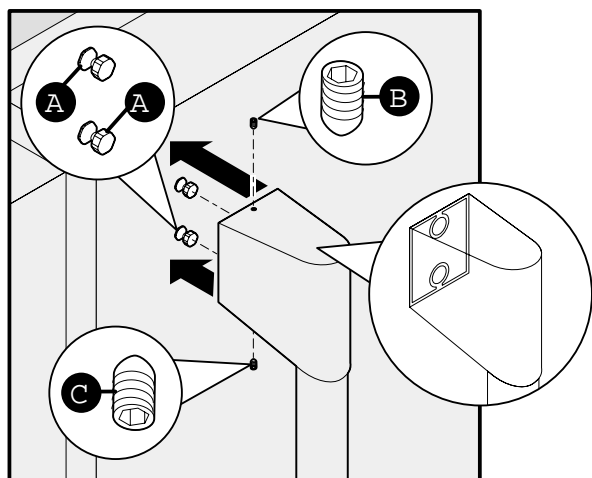

Figure 1
2. Place handle over pre-installed shoulder bolts (A) that are fastened into door in four locations.
3. While supporting handle and looking at upper end cap, fasten top-most allen set screw (B) with supplied allen wrench, then fasten bottom allen set screw (C). See Figure 1.